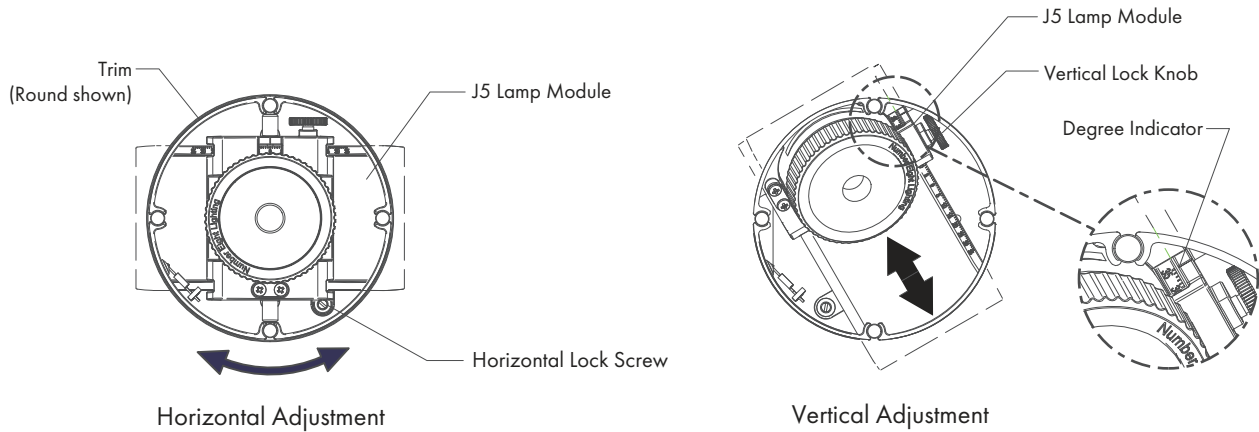

FIG 4.1 J5 Aiming Adjustment
STEP 2 Loosen Vertical Lock Knob and adjust J5 Lamp Module to desired vertical aiming position. Tighten Lock Knob to secure the vertical adjustment - **FIG 4.1**.